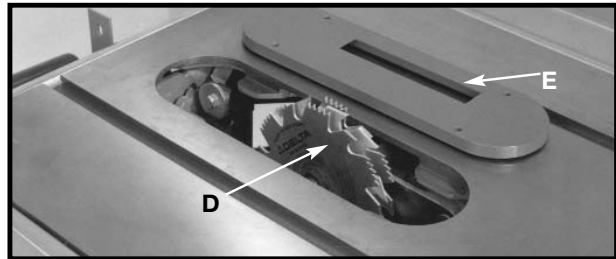

Fig. 51
2. Attach the dado head set (D) Fig. 51, to the saw arbor.
CAUTION THE ACCESSORY DADO HEAD SET TABLE INSERT (E) FIG. 51, MUST BE USED IN PLACE OF THE STANDARD TABLE INSERT.